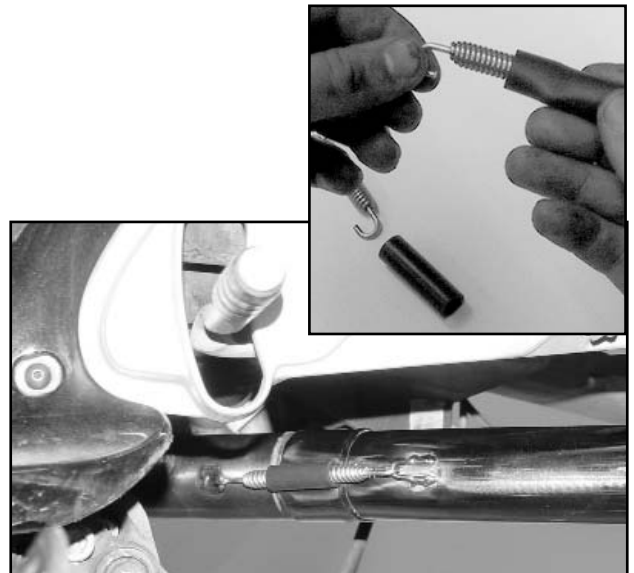

Figure 16.
11. When you have at least 2mm clearance to the heat shield and 10mm clearance to the side case, firmly tighten the M10 x 12 hanger screw (A). Tighten the M10 x 12 Screw at the hanger to 14 ft/lbs. **Torque Wrench.**
12. Place the Spring Covers on the Springs and install them to join the Connector Pipe and Muffler Assembly. **Figure 16.**